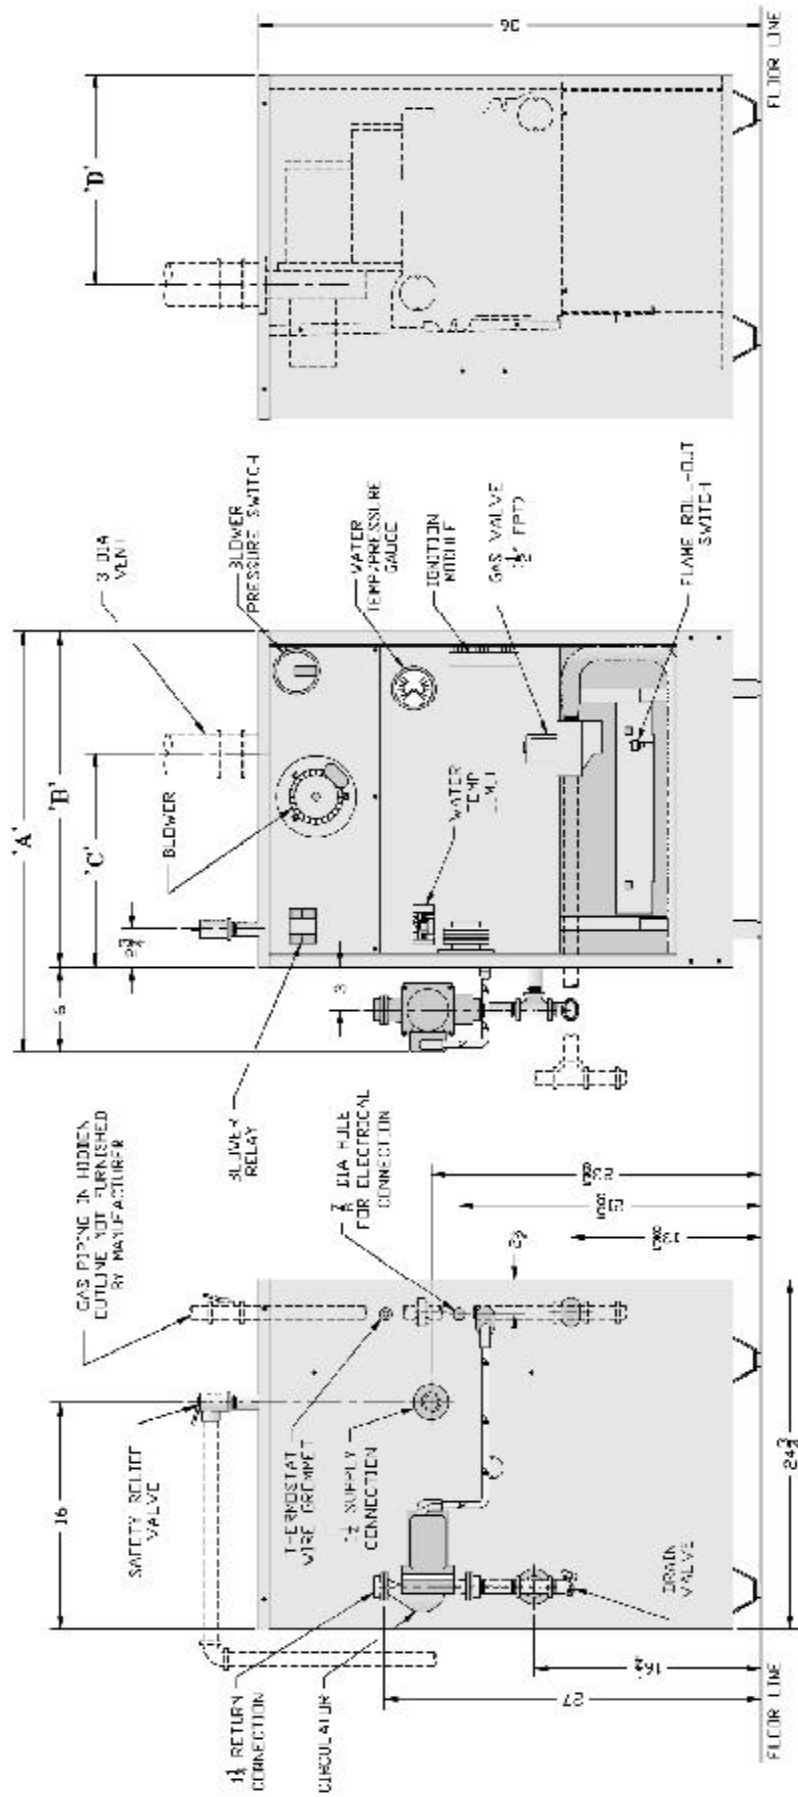

Figure 1: Elevation Views
- E. Install Drain Valve** in ¾" NPT connection in tee provided. See Figure 1.